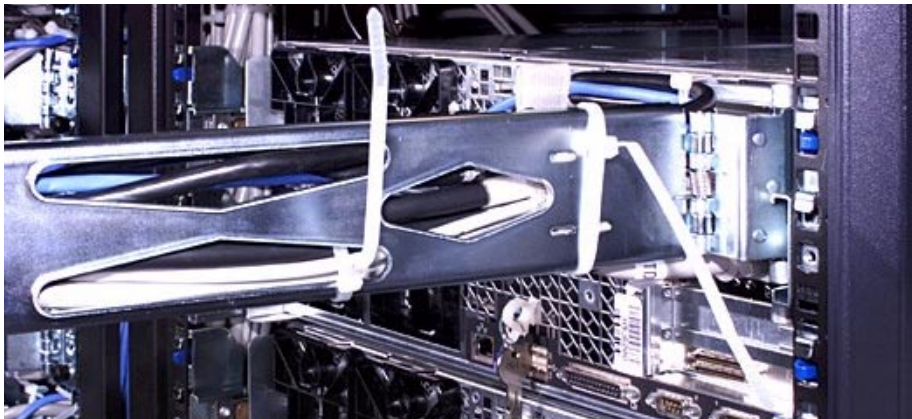

Figure 12. Securing the Cables to the Cable Management Arm
5. Use a large cable tie to secure all of the cables to the end of the cable management arm nearest to the system (see Figure 12).